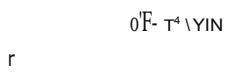

Fig. Q5 (b)
b. For the beam element shown in figure Q5 (b), determine the displacement and slope at the free end. Take  $E = 70 \text{ GPa}$ ,  $I = 4x 10^{-4} \text{ m}^4$  (08 Marks)